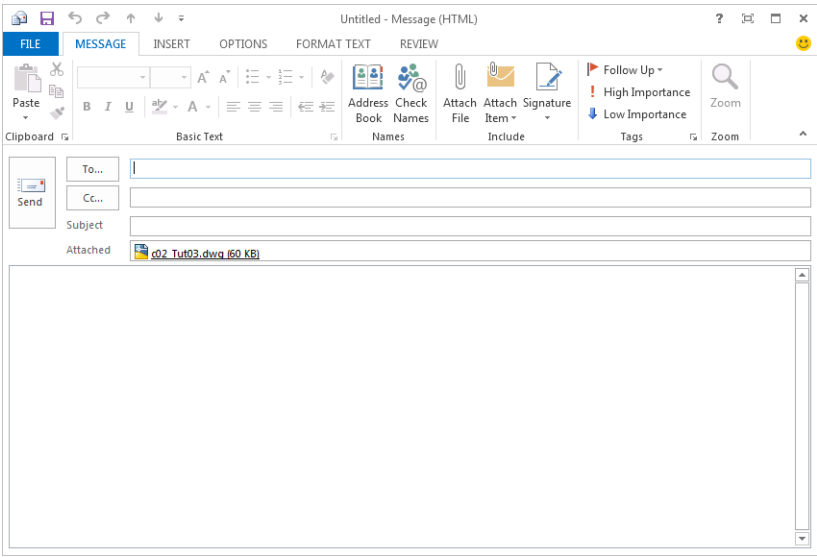

Figure 2-31 The Microsoft Outlook window
1. Choose **Send > Email** option from the Application Menu, the Microsoft Outlook window will open, refer to Figure 2-31.